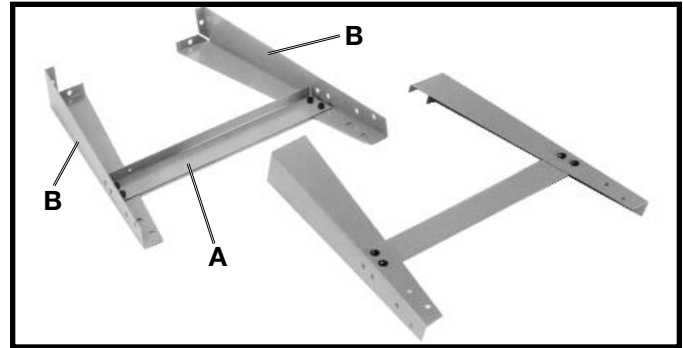

Fig. 6
1. Assemble the longer bottom bracket (A) Fig. 6, to the inside of two table legs (B) as shown. Align the holes in the longer bottom bracket (A) Fig. 6, with the holes in the table legs (B). Insert a 5/16-18x5/8" carriage head bolt through the hole in the table leg (B) and the hole in the longer bottom bracket (B), place a 5/16" flat washer onto the carriage head bolt, place a 5/16" lockwasher onto the carriage head bolt, thread a 5/16-18 hex nut onto the carriage head bolt. **NOTE:** Only snug-up stand mounting hardware at this time. Repeat this process for the three remaining holes in the larger bottom bracket.
2. Assemble the other stand bracket (A) Fig. 6, to the remaining two table legs (B) in the same manner.